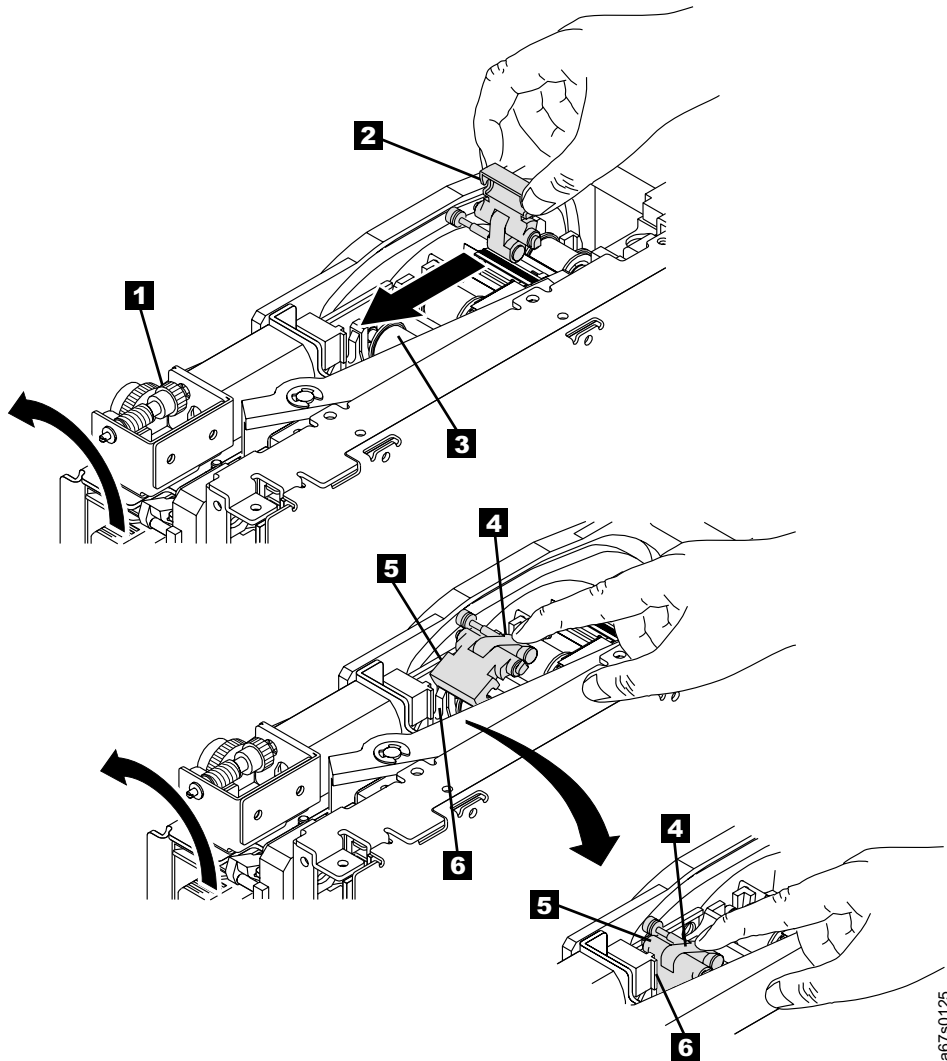

Figure 26. Guiding the Leader Pin into the Tape Cartridge
9. Manually rotate the loader motor gear (see **1** in Figure 26) in the unload direction (counterclockwise) until the leader-pin block **2** reaches the last roller **3**.